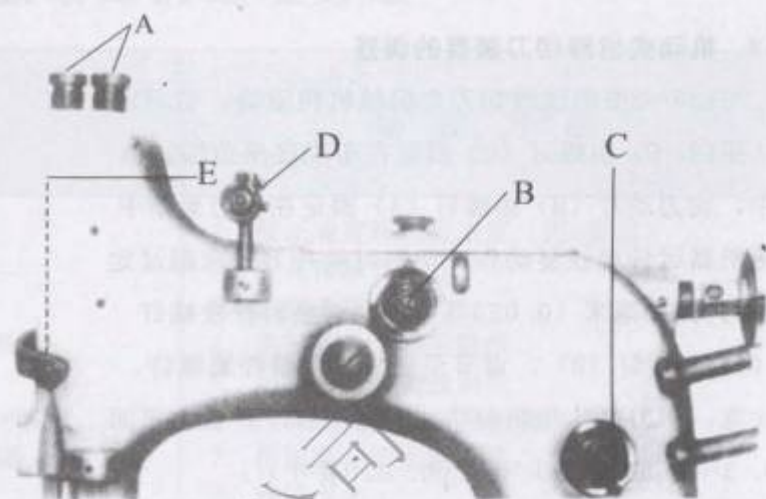

图10 Fig.10
压脚压力的大小,取决于缝料的厚度,缝薄料时顺减少压力;反之,则增大压力。当缝料推送顺畅,针迹均匀时切勿再增大压力,以缓减机件磨损。调节压力时旋进两只调压螺套(图10, A)可增大压力,施出则减少压力。
GK35-2C型的压脚压力大小由上盖板上的调节螺钉(图10, F)进行调节。调节时拧松锁紧螺母(图10, G),旋进调节螺钉(F)可增大压力,反之则减少,调整后再拧紧锁紧螺母(G)。
The presser foot pressure of styles GK35-2D and GK35-6D can be adjusted with adjusting screw (F, Fig. 10) on the upper cover plate. When adjusting, loosen lock nut (G, Fig. 10), turn adjusting screw (F) to increase pressure, and turn out to decrease pressure. Retighten lock nut (G) after adjusting.
缝线张力由夹线器(图10, B、C)调节, 通常面线(B)张力要比底线(C)的张力大。旋紧夹线器螺母(B、C)使张力增大, 旋出则减少。
Thread tension is adjusted by thread tension assembly (B, C Fig. 10). Tension of upper thread (B) is generally stronger than that of lower thread (C). Turn thread tensioner nut (B, C) in to increase the tension, turn it out to decrease the tension. If the stitch is still not good, should adjust the height of thread adjusting bar (D). The height of the thread adjusting bar (E) is at the same level with the thread eye of the needle bar connection at its highest position.